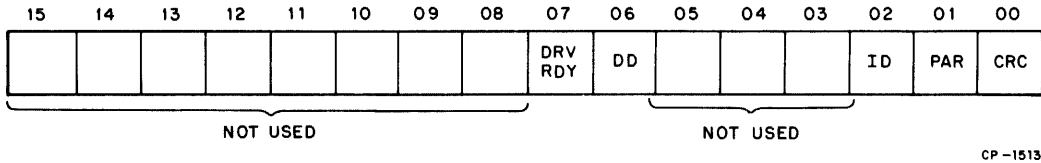

Figure 3-5 RXES Format (RX11)
3.2.2.4 **RXES – RX Error and Status** (Figure 3-5) – This register contains the current error and status conditions of the drive selected by bit 4 (Unit Select) of the RXCS. This read-only register can be addressed only under the protocol of the function in progress (Paragraph 3.3). The RXES is located in the RXDB upon completion of a function.